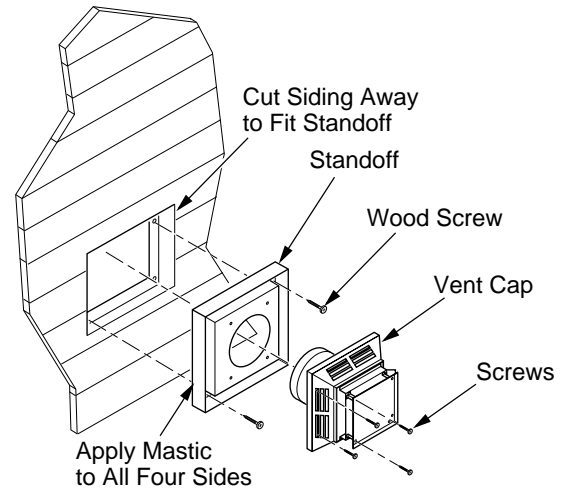

Figure 11 - Installing Siding Standoff
**Combustible Exterior Wall:** For vinyl siding, stucco, or wood exteriors, a siding standoff must be installed between the vent cap and exterior wall. The siding standoff prevents excessive heat from damaging the siding materials. Siding material must be cut to accommodate standoff. Bolt the vent cap to the standoff. Apply non-hardening mastic around outside edge of standoff. Position the standoff/cap assembly in the center of the 10" square hole and attach to exterior wall with wood screws provided (see Figure 11). The siding standoff must sit flush against the exterior fascia material.